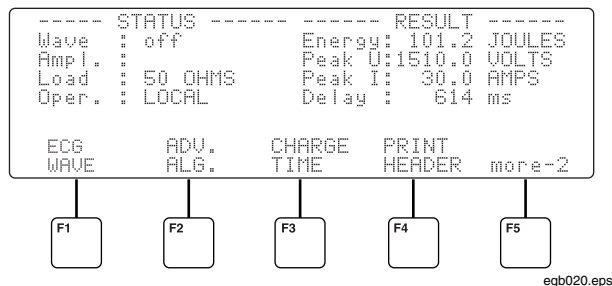

Figure 18. Energy Test Results
- The Analyzer calculates the energy delivered over the load resistance and displays the result in joules under **RESULT**, as shown in Figure 18.